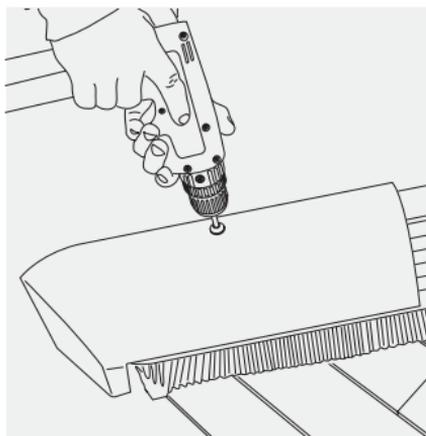

Fig. 61 – Fixing Third Round End Hip tile
- 9 Fit a clay third round hip end tight against eaves tiles and trim the Block End if required. Fix Block End Hip tile through HipFast Hip Support Tray to hip batten using 75mm x 4.8mm screw and sealing washer provided. Tighten securely to ensure a firm seal (Fig. 61).